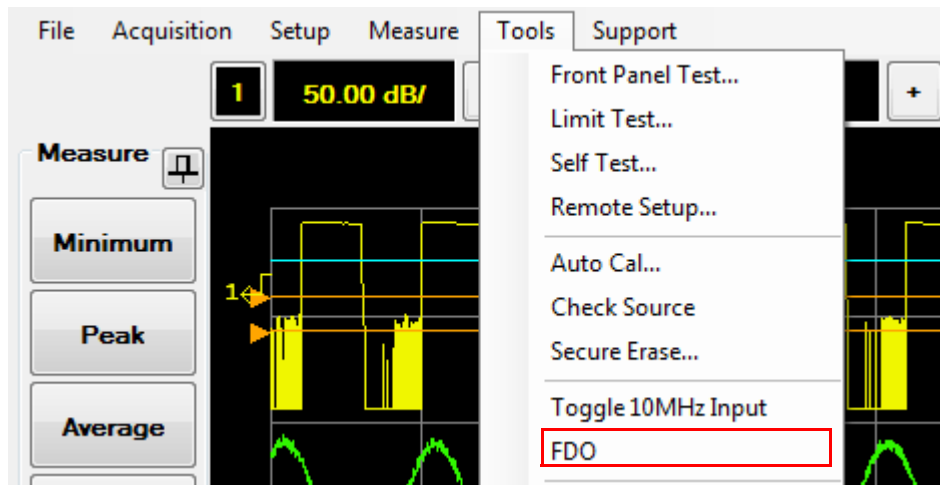

Figure 2-72 FDO selection in the Tools menu
- 1 Select **Tools** > **FDO** on the toolbar as shown in Figure 2-72.